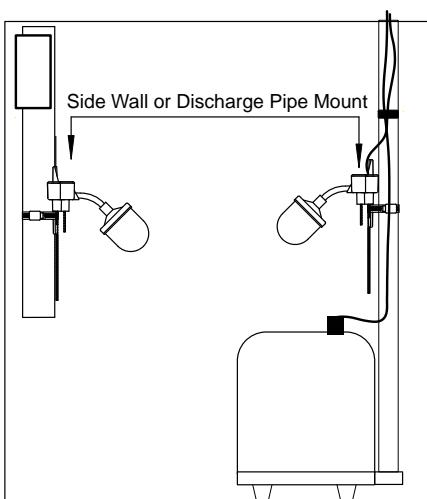
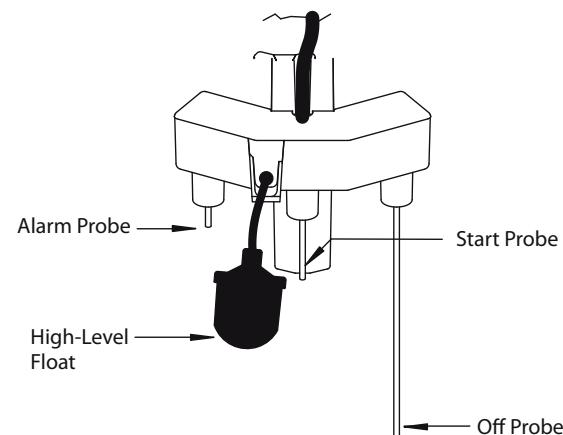

FIGURE 4
FIGURE 5
6. Attach the sensor holder to the discharge pipe (or a separate pipe mounted to the side wall) using the stainless steel pipe clamp (Figure 4). Make sure the sensor is clear of inlet water and at least 1" to 2" away from any conductive material. To ensure that the pump remains submerged, make sure the OFF probe is at the same height as the top of the pump or just slightly below (Figure 5).
1. Enlever le capuchon du raccord d'entrée (Figure 4).
- Enlever le capuchon du raccord d'entrée (Figure 4).